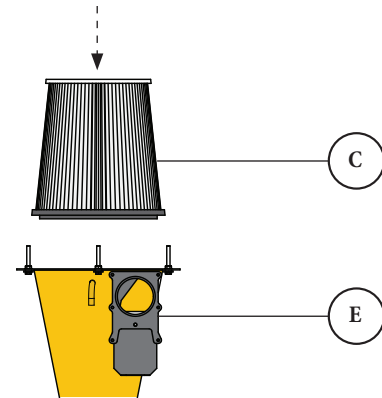

FIG. 14
Place the Filter (C) on top of the Cyclone (E) with the open side facing down [FIG. 14].